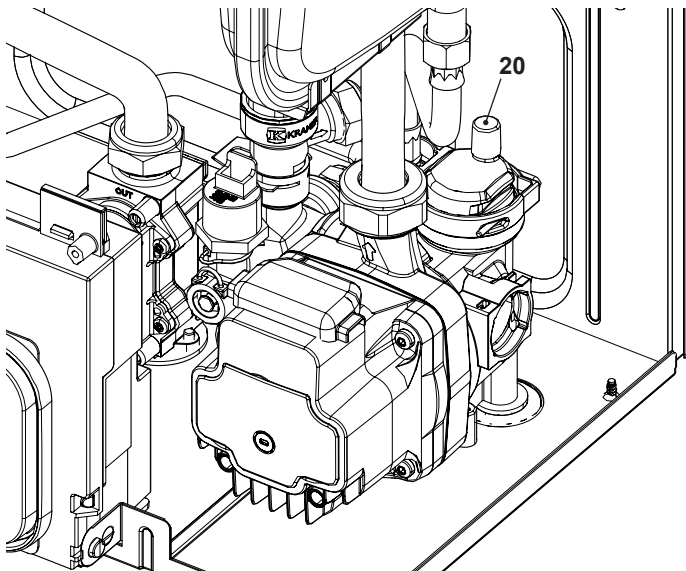

Figure 2.12
- 4 To make draining easier, lift the plug "20" of the automatic relief valve in Figure 2.12.